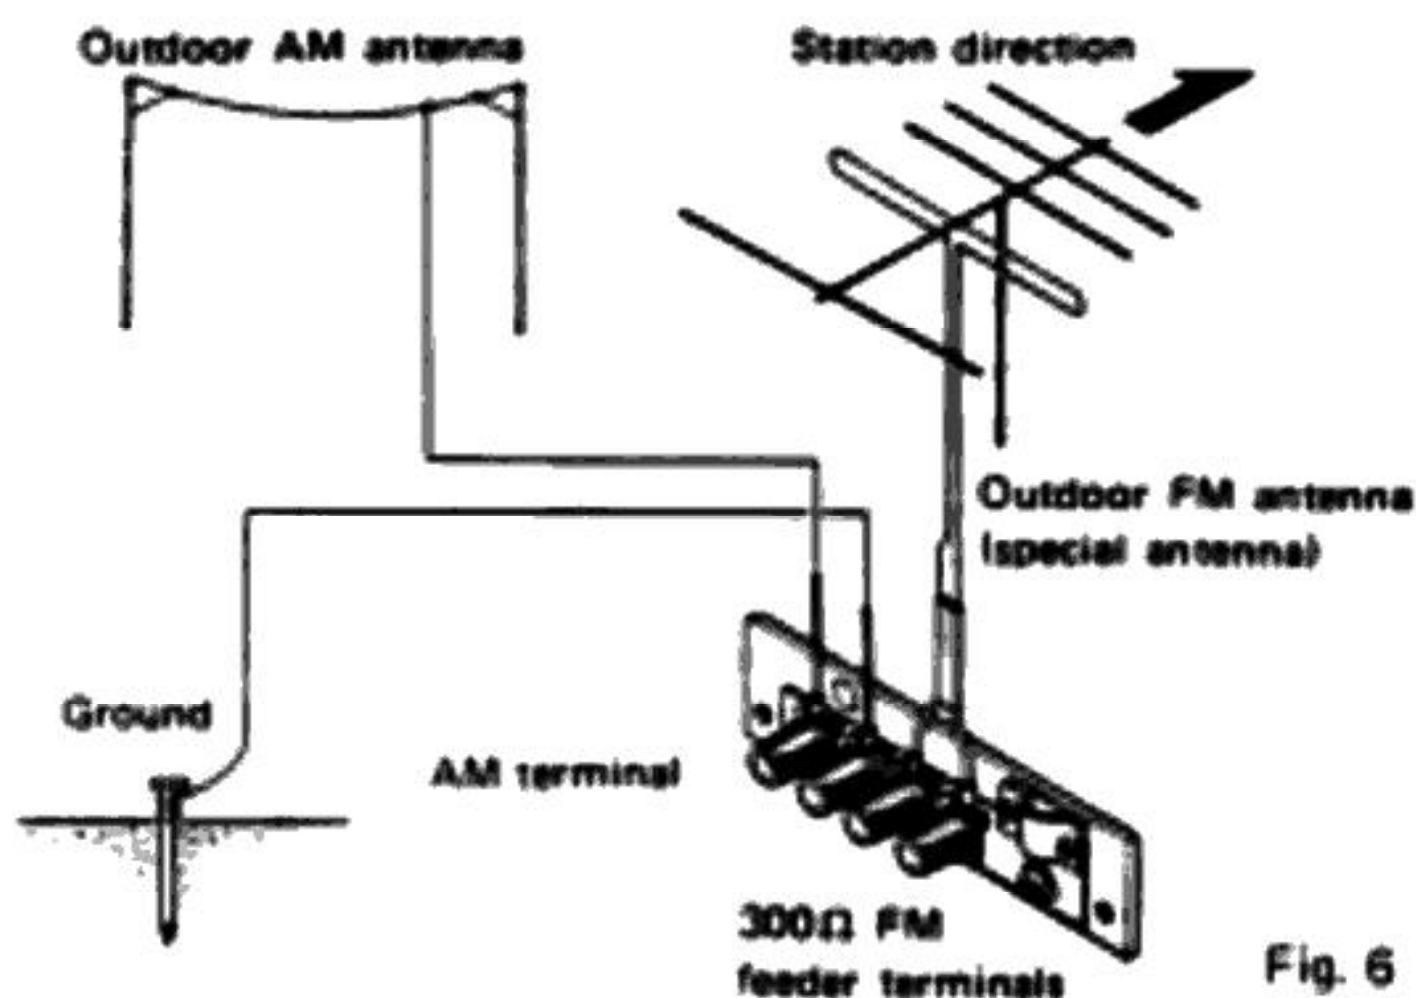

Fig. 6
- Connect antenna feeder to the 300Ω antenna terminals of the SX-1250 as shown in Fig. 6.
For optimum AM reception, an outdoor AM antenna using vinyl insulated wire can be erected as shown in Fig. 6.
For maximum safety and noise reduction, connect the GND terminal to an earth ground (Fig. 6).